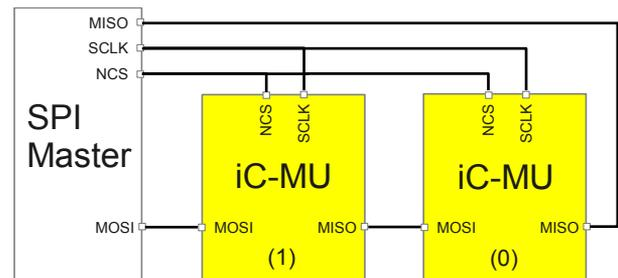

Figure 22: Example configuration with 2 Slaves (daisy chain)
Using the **ACTIVATE** command, the register and sensor data channels of the connected slaves can be switched on and off. The command causes all slaves to switch their RACTIVE and PACTIVE registers between MOSI and MISO and set them to 0 (slaves in daisy chain connection, Figure 22). The register and
An example for a daisy chain wiring of 2 SPI slaves is given in Figure 22. In order to do register communication (**Read REGISTER (single)**, **Write REGISTER (single)**, **REGISTER status/data**) with e.g. slave (1) the register communication has to be enabled explicitly for this slave and disabled for slave (0) with command **ACTIVATE** and parameter **RACTIVE**.